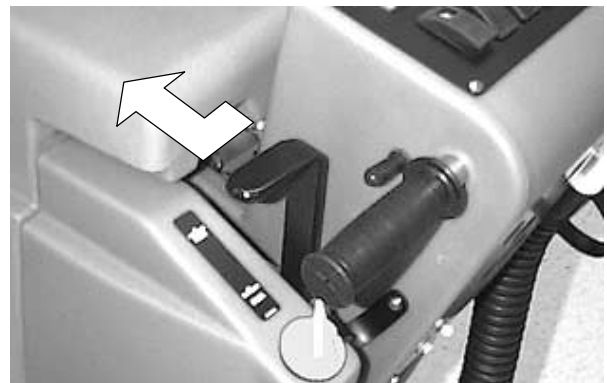

FIG. 12
3. Disengage squeegee lift lever from the up position and lower squeegee (Figure 12).